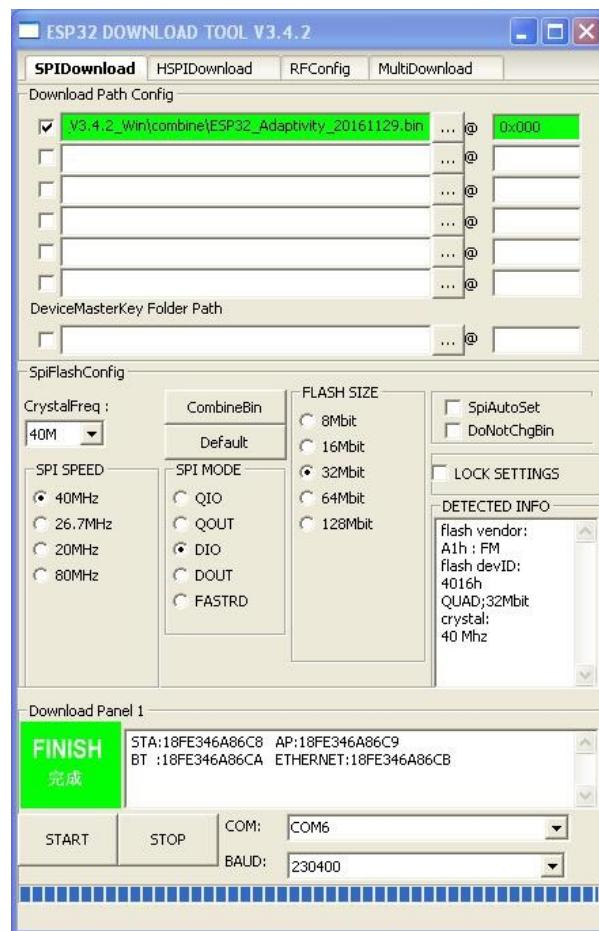

Figure 3-5. Flash Download Tool
6. After the downloading is complete, the status bar displays “Finish”, as Figure 3-5 shows.